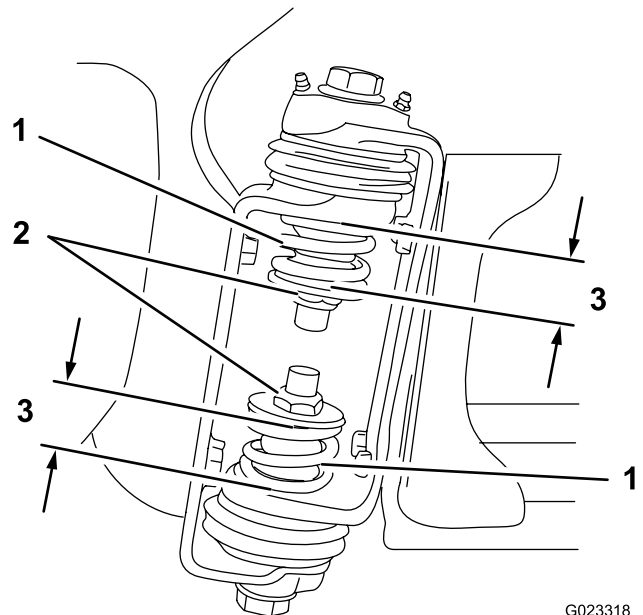

Figure 16
2. At the boom hinge, measure the compression of the upper and lower springs while the booms are in their extended position (Figure 16).